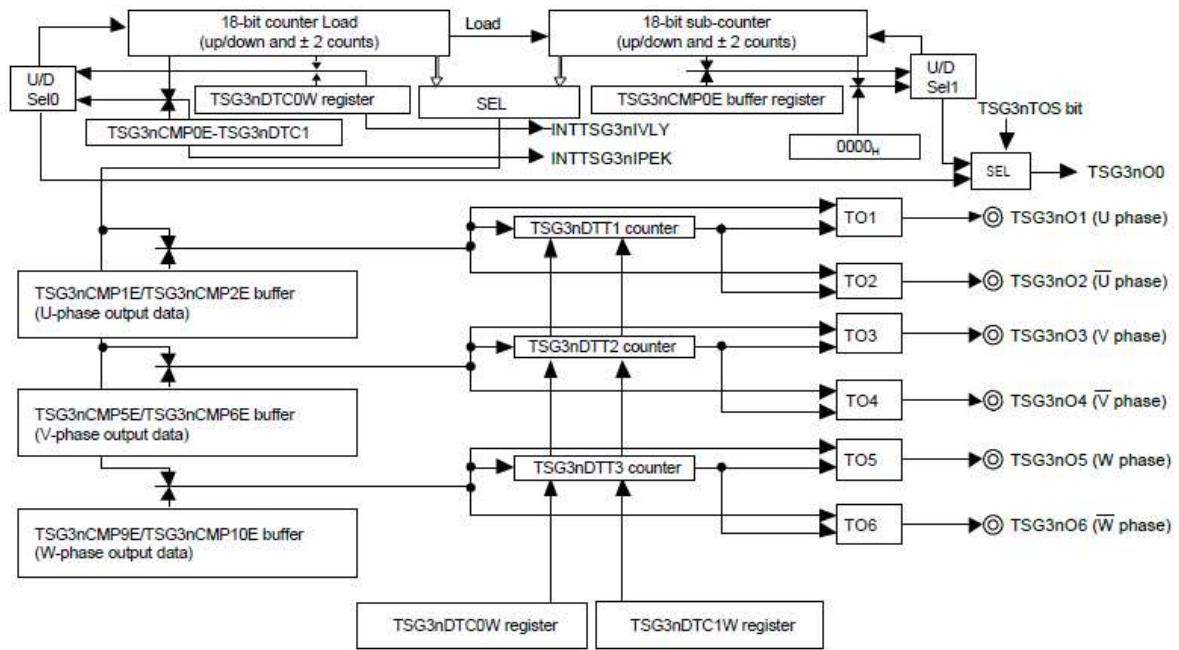

Figure 6-13 HT-PWM Mode Block Diagram
**IMPORTANT:** The TSG3nPTS1x pin signal shown in Fig 6-13 is connected to ENCAEx pin of the MCU. There is no TSG3nPTS1x pin on the MCU.